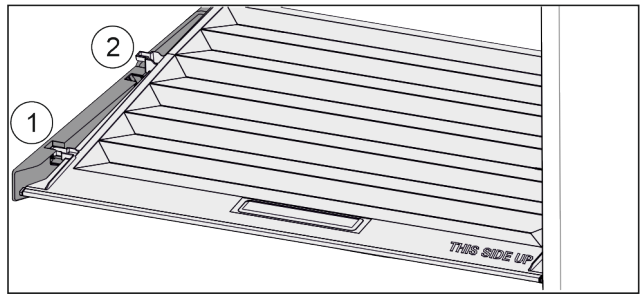

Fig. 73
- ▶ Pull the lid up at the front to the opening in the retaining parts Fig. 73 (1).
- ▶ Lift from the back and pull it up and out Fig. 73 (2).